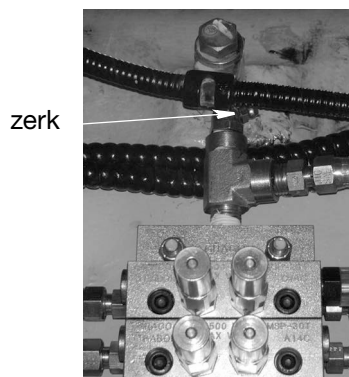

FIG. 6
3. Install grease zerk fittings and zerk cover (FIG. 6).